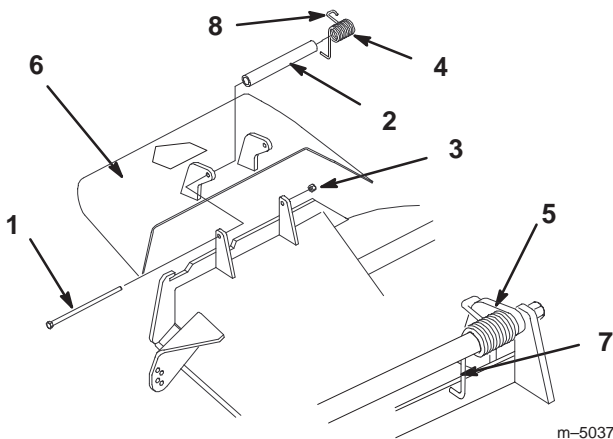

Figure 65
1. Remove the locknut, bolt, spring and spacer holding the deflector to the pivot brackets (Fig. 65). Remove damaged or worn grass deflector.
Note: Make sure the L end of spring is installed behind deck edge before installing the bolt as shown in figure 65.
3. Install bolt and nut. Place J hook end of spring around grass deflector (Fig. 65).